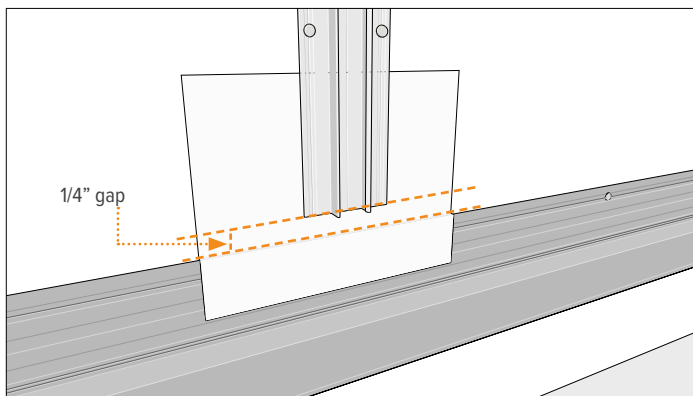

Figure 14.2
5. Apply the midfield EZ.7 back plate over the flashing so that the bottom is 1/4" above the horizontal trims nailing flange and the top aligns with the top of panel location and fasten in place. (Figure 14.2) (see **Fastening Info**).